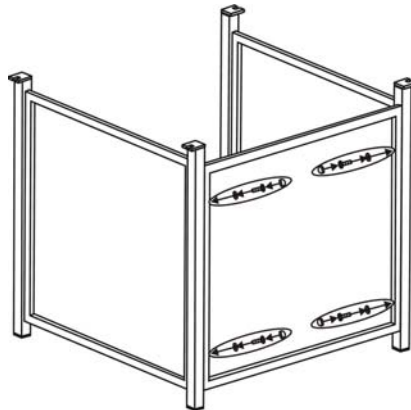
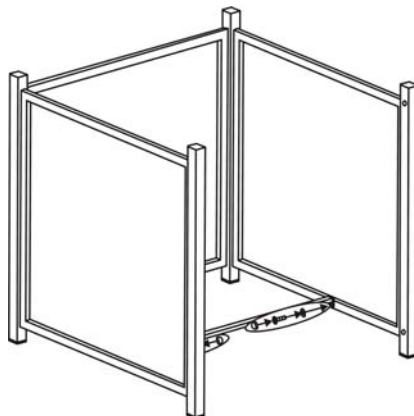

Figure 2
Figure 3
- 1 Assemble furniture on a smooth, non-abrasive surface. Attach the back frame to right arm by using two 5/16"x40 mm bolts and washers as shown in **Fig.1**. Guide the bolts through holes in back frame, into pre-drilled holes in the right arm. **Hand tighten only**. Attach the seat frame to right arm and back frame by using four 5/16"x25 mm bolts and washers as shown in **Fig.2**. **Hand tighten only**. Attach the left arm to back and seat frame by using two 5/16"x25 mm bolts and two 5/16"x40 mm bolts and four washers as shown in **Fig.3**. **Hand tighten only**.
2. Attach the back panel to the side panels by using four 1/4"x40 mm bolts and washers as shown in Figure 2. Guide the bolts through the holes in back panel, into the pre-drilled holes in the side panels. **Hand tighten only.**
3. Attach the middle support to the side panels by using four 1/4"x15 mm bolts and washers as shown in Figure 3. Guide the bolts through the holes in the middle support, into the pre-drilled holes in the side panels. **Hand tighten only.**